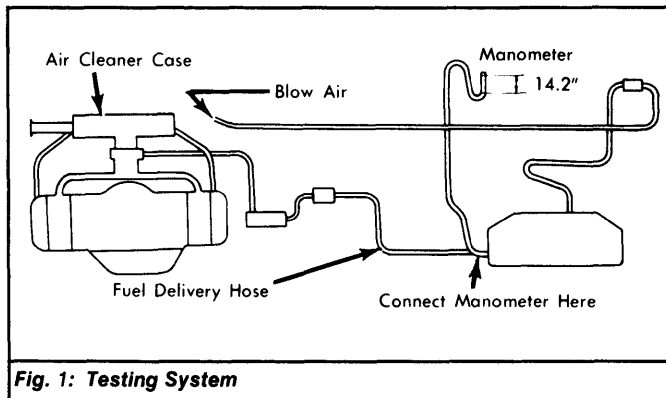

Fig. 1: Testing System
- 2) Connect a water column manometer that measures more than 15.8 in. water to hose. See Fig. 1.